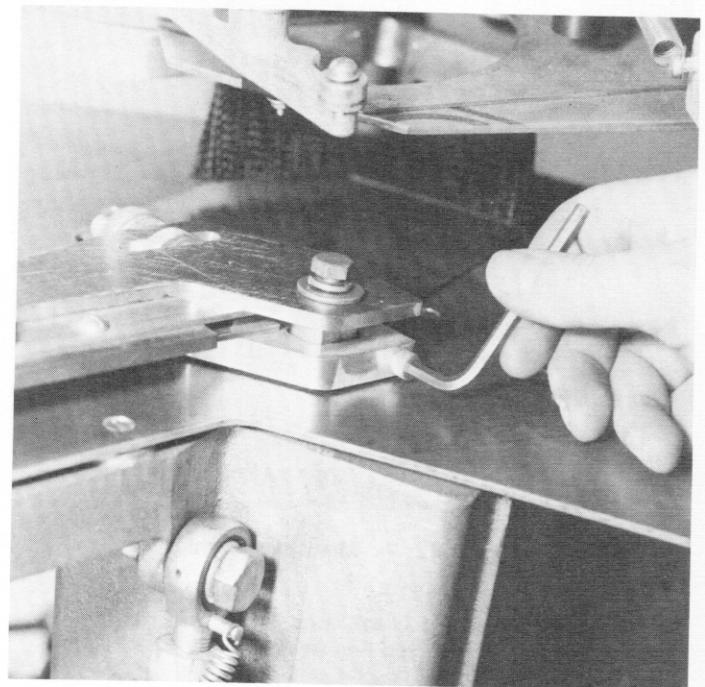

Figure 10 — Throwing Arm Assembly
- D. Remove throwing arm assembly by removing carrier screw, loosening carrier clamp screw, and lifting or prying carrier off shaft (see Figure 10).